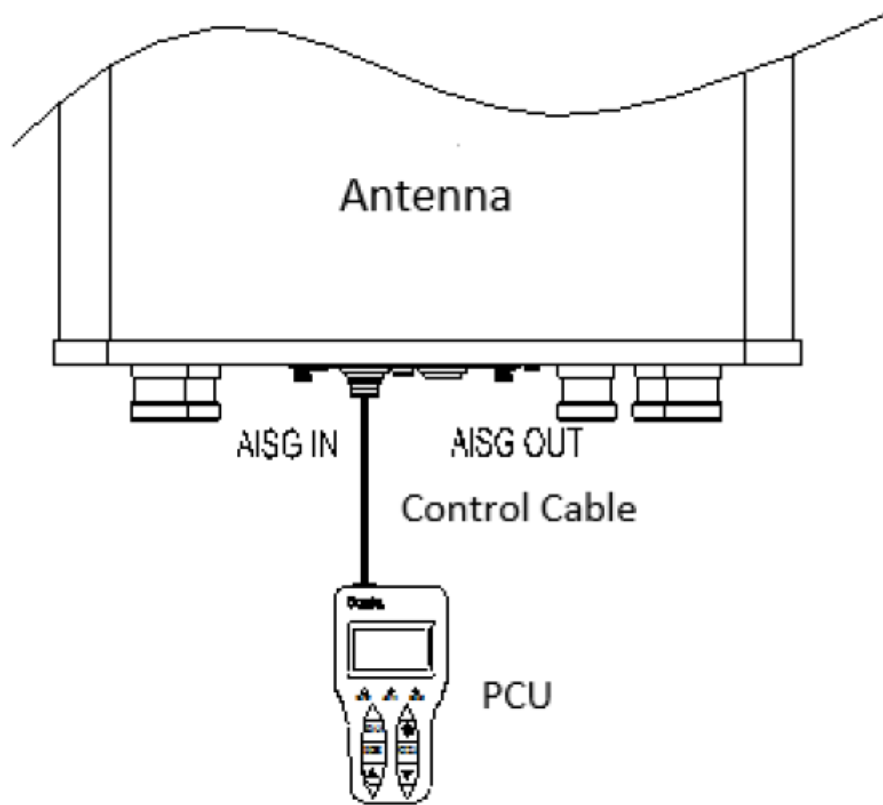

Figure 4 AISG Control Cable to PCU
c) As shown in Figure 4, connect the control cable to the AISG Connector located at the lower part of the MIRCUCU and tighten the connector.